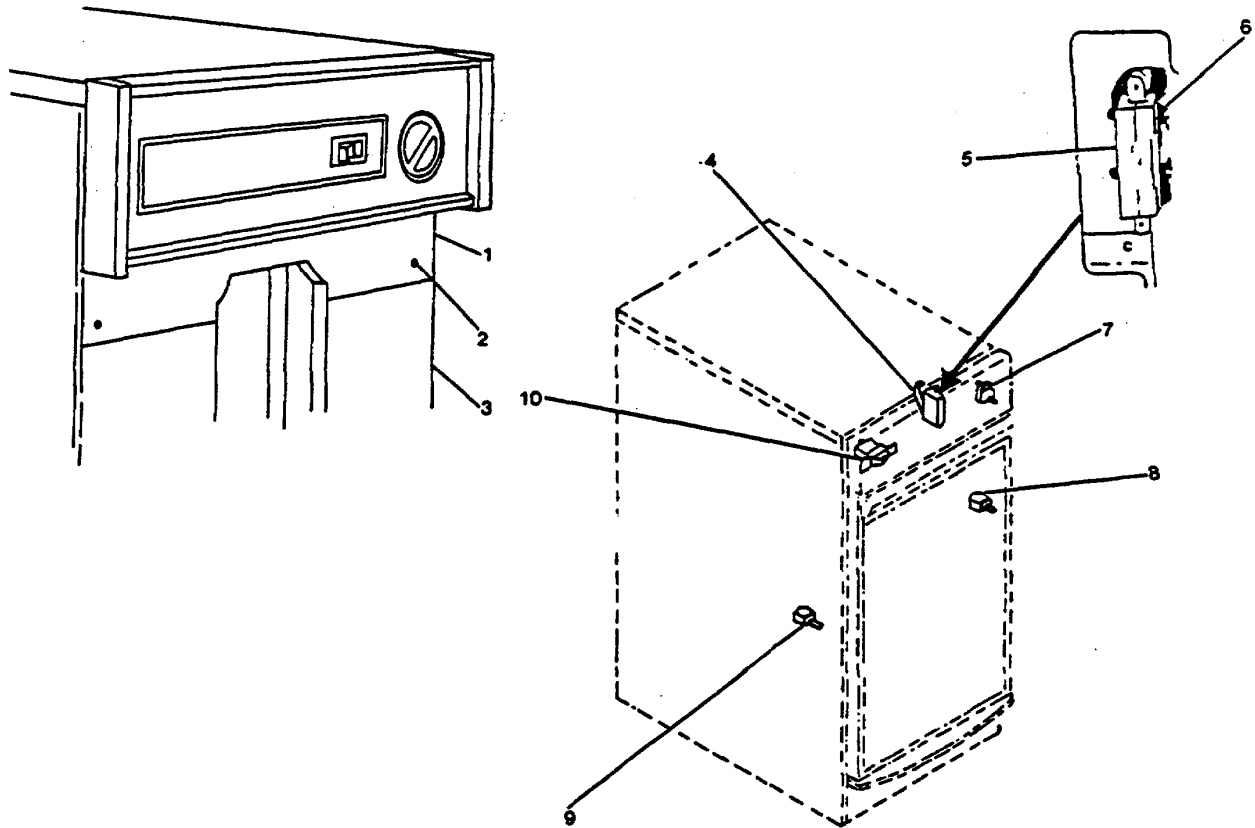
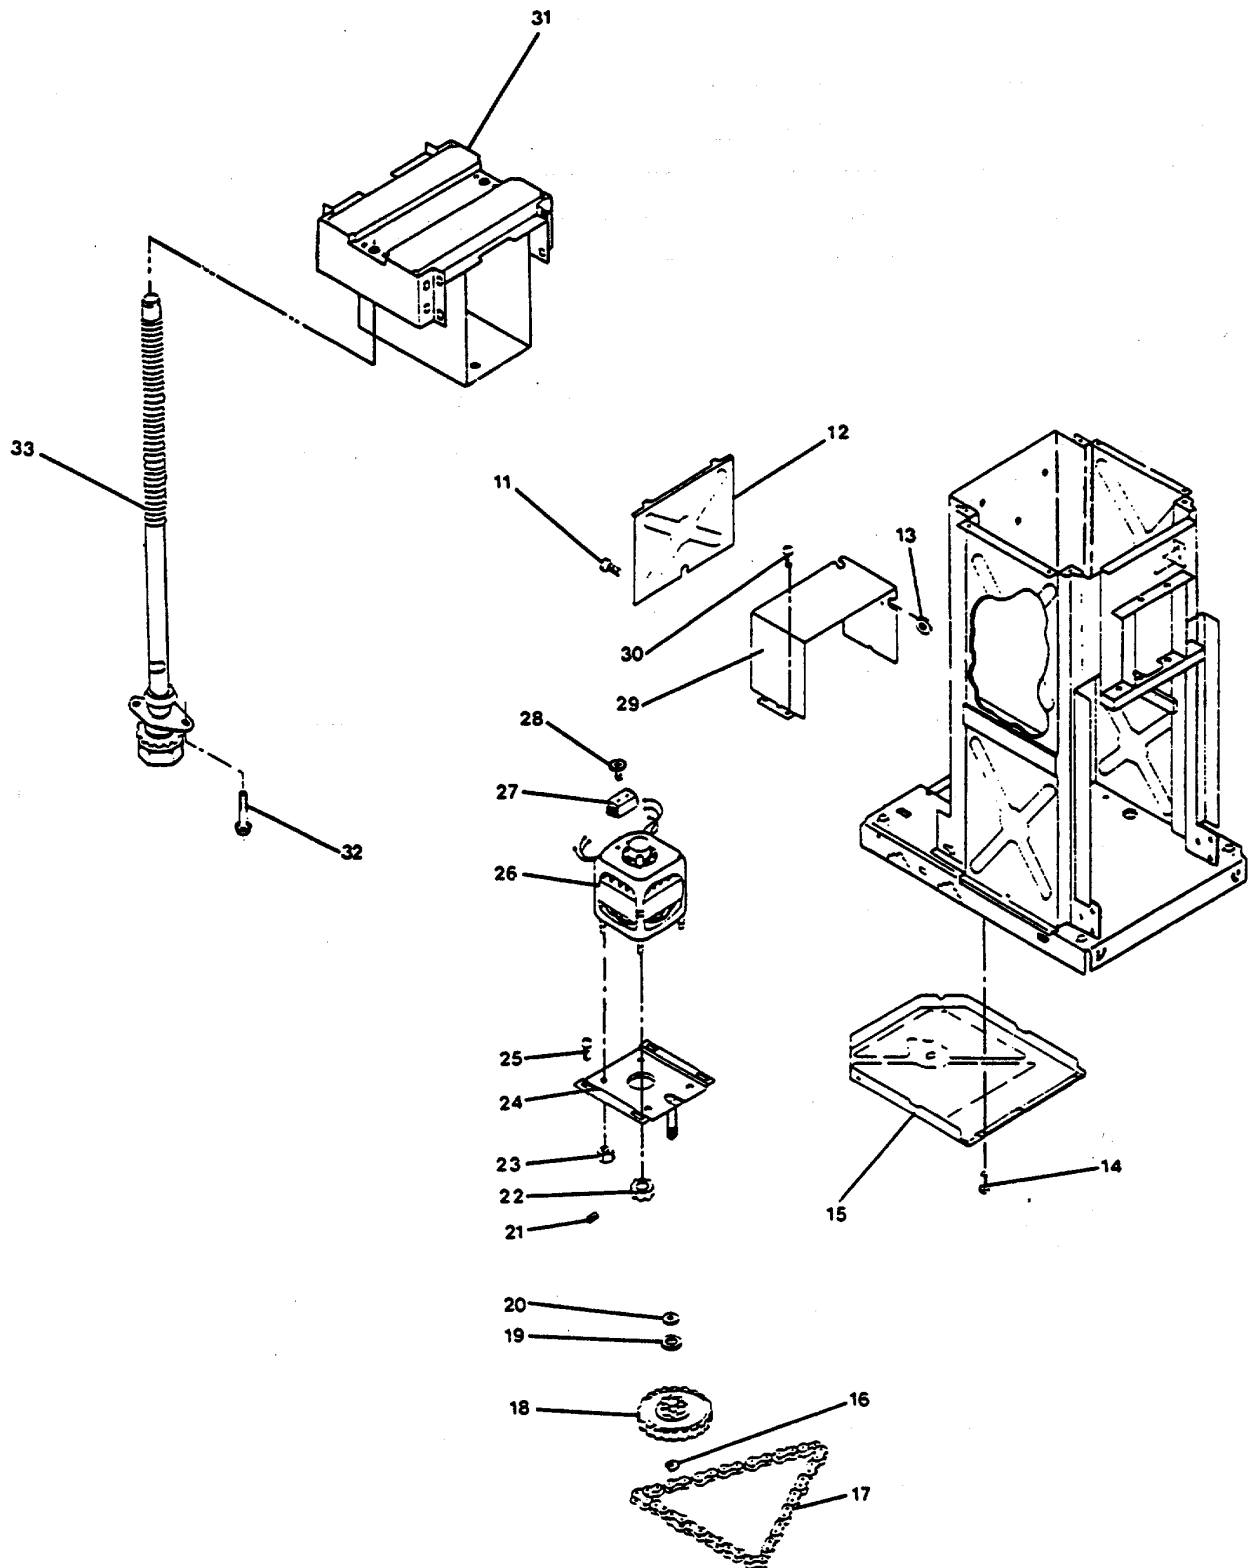

FIGURE 3-81. Compactor Switches.
FIGURE 3-82. *Repair Solid Waste Compactor.*
- a. Remove drawer (3, Figure 3-81).
- b. Remove machine screw (2) and remove control escutcheon (1).
- d. Remove screws (6) and nut plate (5).
- e. Remove top limit and directional sensitive switch (4).
- f. Remove drawer safety push switch (9).
- g. Remove lock ring and start-run rotary switch (7).
- h. Remove drawer tilt push switch (8).
- i. Remove toggle switch (10).
- j. Remove machine screw (11, Figure 3-82) and motor cover plate (12).
- k. Remove machine screw (30) motor cover (29).
Repair at this level of maintenance is by replacement of: start-run rotary switch (7, Figure 3-81), toggle switch (10), drawer tilt push switch (8), drawer safety push switch (9), top limit and directional sensitive switch (4), solid state switch (27, Figure 3-82), alternating current motor (26), power screw assembly (33).
- b. Install drive motor on mount plate (24) and attach with locknut (23).
- c. Install drive chain (17).
- d. Slide drive motor (26) back and tighten machine bolt (25).
- e. Install wave washer (20), thrust washer (19), driven gear (18) and clip ring (16).
- f. Install power screw assembly (33) and attach with machine screw (32).
- g. Turn driven gear (18) until power screw assembly engages ram (31).
- h. Install bottom pan (15) and attach with machine screw (14).
- i. Install solid state switch (27) and attach with machine screw (28).
- j. Install motor cover (29) and attach with machine screw (30).
- k. Install motor cover plate (12) and attach with machine screw (11).
- l. Install toggle switch (10, Figure 3-81).
- m. Install drawer tilt push switch (8).
- n. Install start-run rotary switch (7) and lock ring.
- o. Install drawer safety push switch (9).
- p. Install top limit and directional sensitive switch (4).
- q. Install nut plate (5) and screws (6).
- s. Install control escutcheon (1) and attach with machine screw (2).
- t. Insert and close drawer (3).
3-86. Repair R-30 Mechanical Refrigerator - Refrigeration Evaporator Coil. (Figure 3-82).